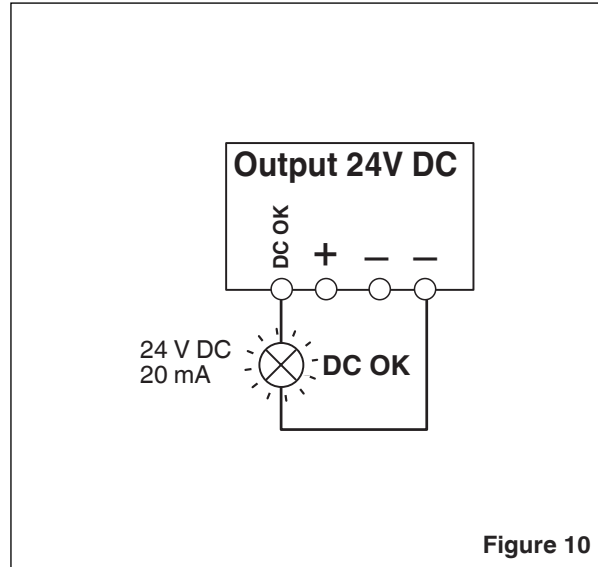

Figure 10
**Active signal output ((3), Figure 10)**